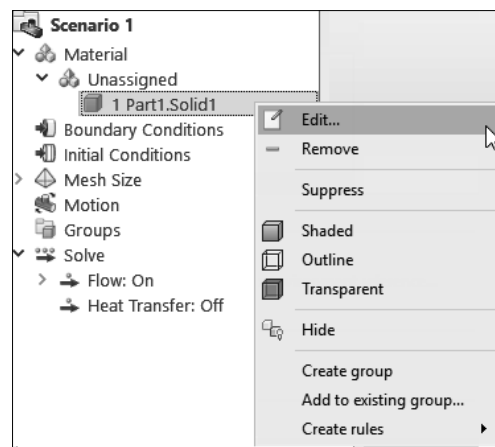

Figure-4. Material right-click menu
- Right-click on the unassigned part of model from **Design Study Bar**. The right-click shortcut menu will be displayed; refer to Figure-4